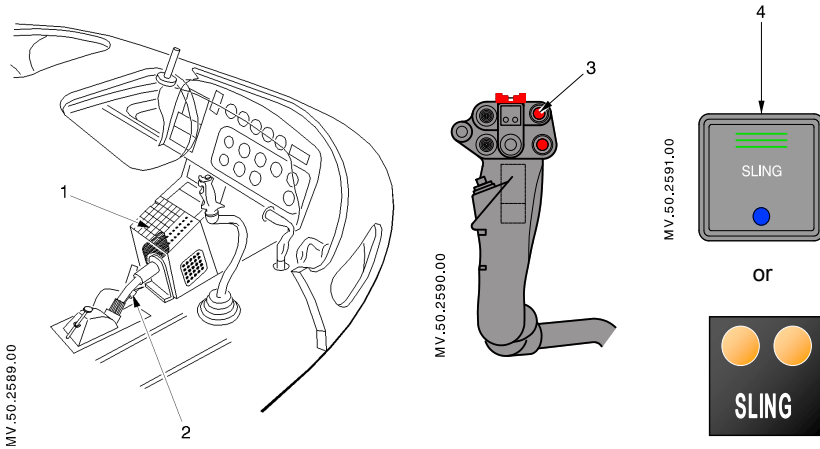

Figure 2: Cargo swing controls
- A control system for the pilot (Figure 2), including:
- a [SLING] pushbutton (4) located on the SCU (1), for powering-on the installation,
- a release control (3) on the cyclic stick (electrical mode),
- a release handle (2) located under the collective lever (mechanical mode).